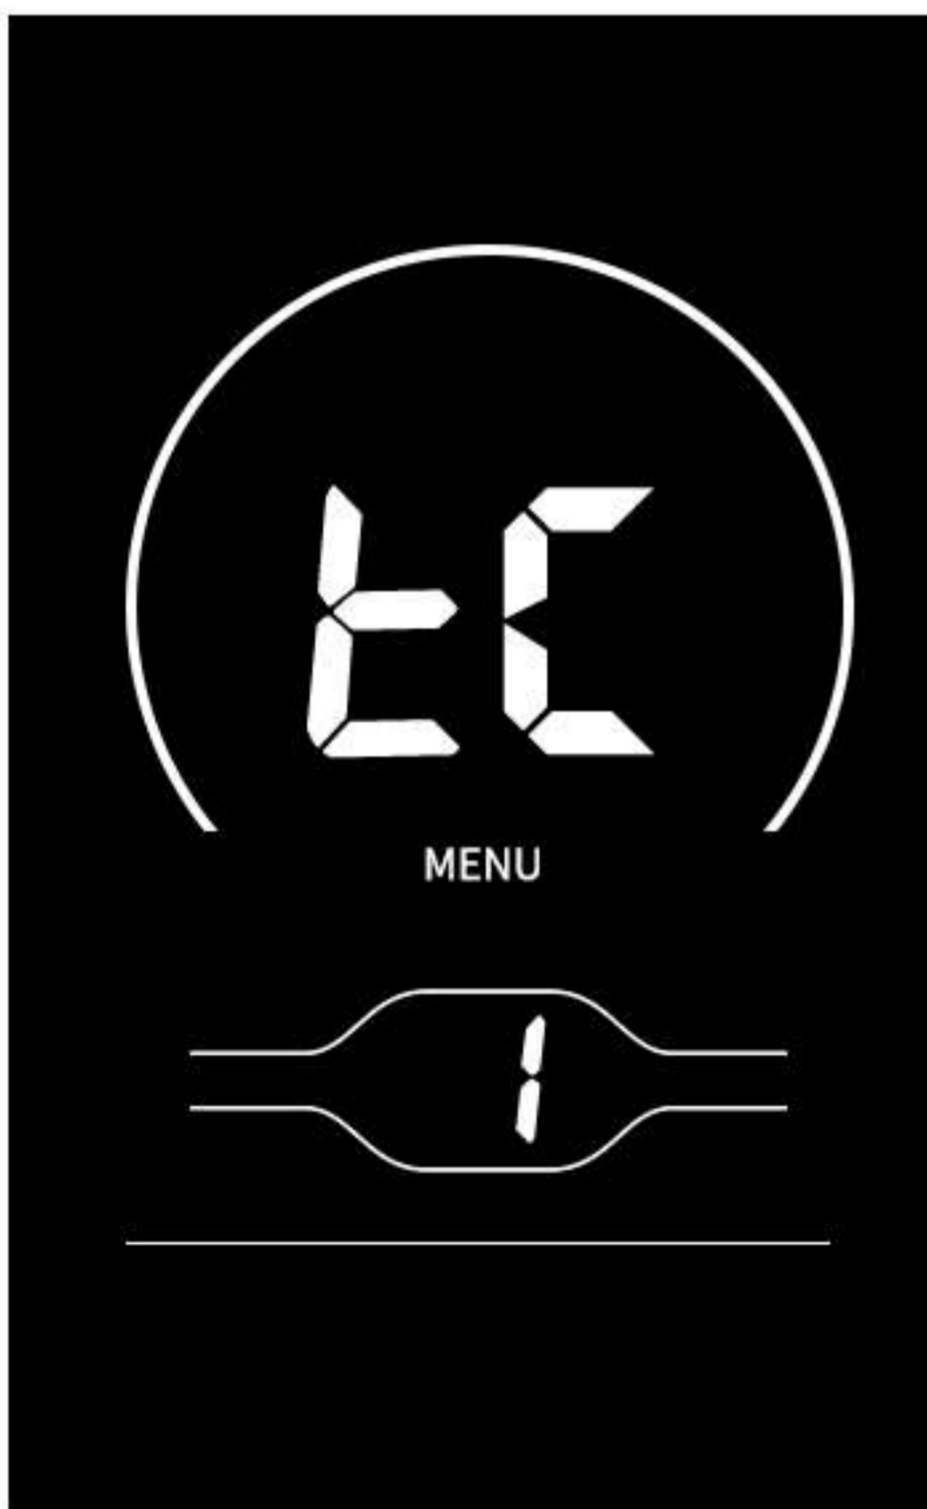

Fig2.2.1
Step 1: Press and hold the **+** **-** key simultaneously for more than 4 seconds to enter the general settings menu (Fig2.2.1)